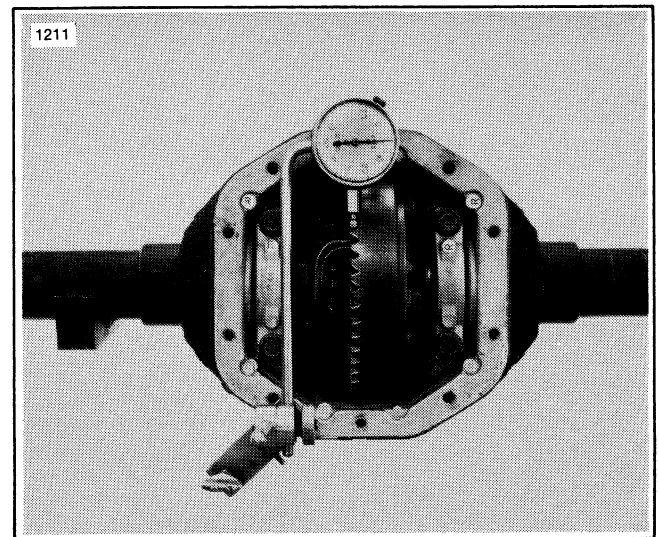

Figure 3-11. Ring and Pinion Backlash Check
6. Check backlash with dial indicator (Figure 3-11). Place contact point of dial indicator on a ring gear tooth. Hold pinion shaft and move ring gear back and forth without moving the pinion gear or shaft. Repeat backlash check at four equally spaced points around ring gear. Backlash must be held between .004 in. (.1 mm) and .008 in. (.2 mm) and must